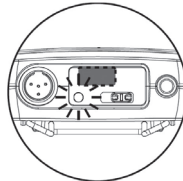

Figure 5
2. The belt pack's LED will illuminate, indicating the frequency is being transmitted to the receiver and that the receiver is synchronizing channels with the belt pack (Fig 5).